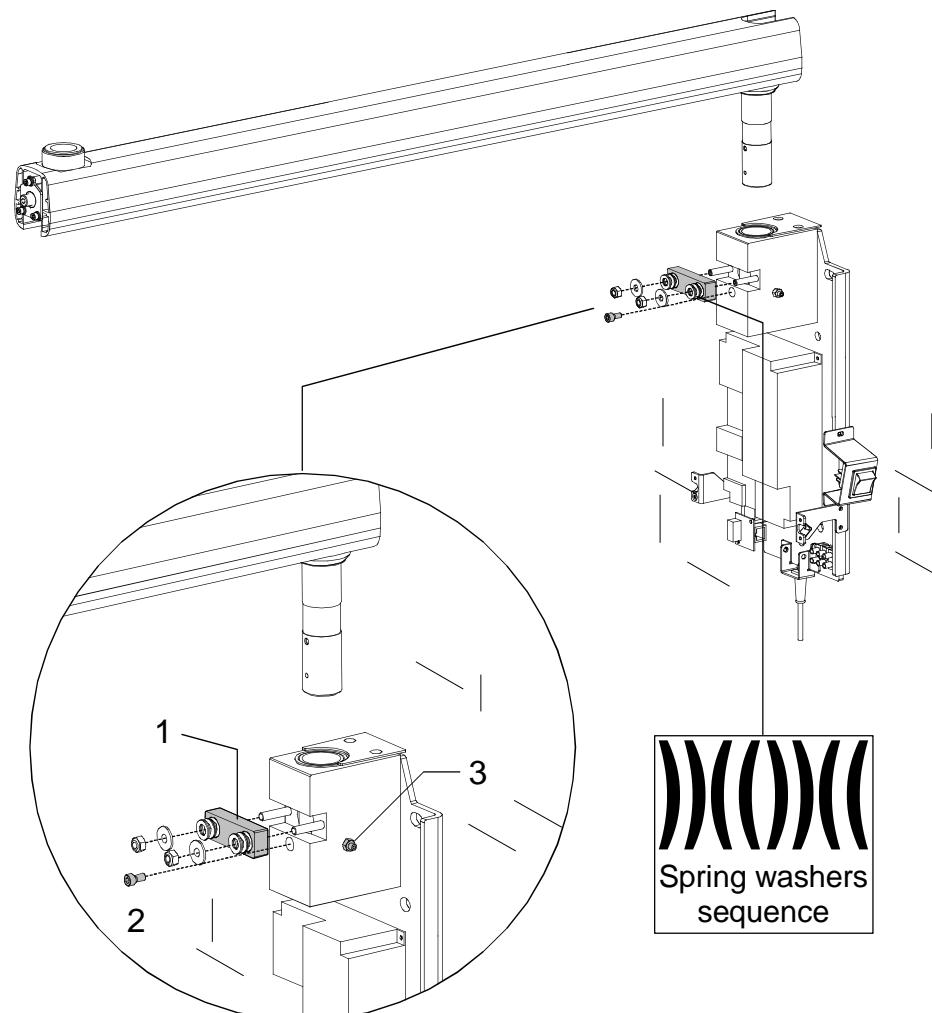

Figure 6-4
2. Assemble the extension arm frictioning mechanism block (1 - Figure 6-4); this frictioning mechanism (code 6159300100) is included in the mounting hardware packaging.
3. Assemble the arm rotation stop screw (2 - Figure 6-4) in the hole present on the shaft; this screw (code 2100014800) is included in the mounting hardware packaging.
4. Tighten the two lateral screws (3 - Figure 6-4 – one on each side) ensuring that they block the arm rotation without interfere with the extension arm pin.